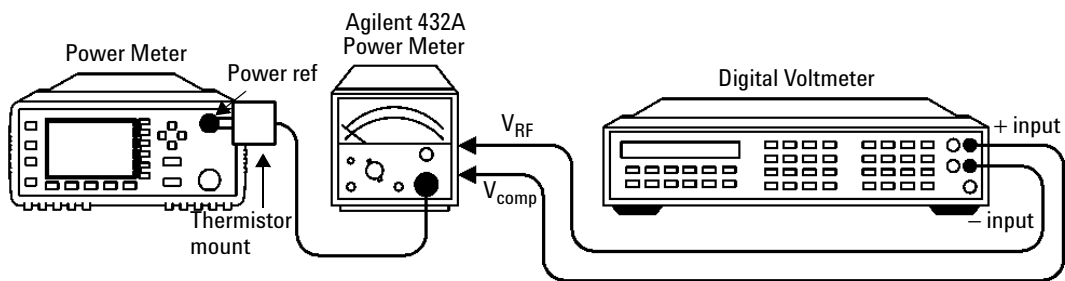

Figure 3-3 Adjustment Setup
- 2 Round off the DVM reading to two decimal places and record this value as the internal bridge resistance (R) of the test power meter (approximately 200 Ω).
- 3 Connect the equipment as shown in Figure 3-3. The leads should be isolated from ground. Ensure that the power reference oscillator is off. Ensure that both the power meter under test and the Agilent 432A have been powered on for at least 30 minutes before proceeding to the next step.